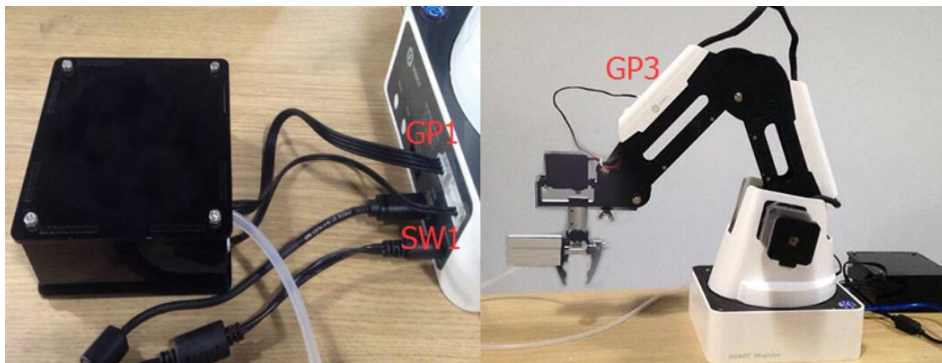

Figure 5.66 Effect of the gripper kit installation
- Step 3** Connect the gripper kit and an air pump to the Dobot Magician in the same way as the suction cup kit is installed. For details, see *5.7.1 Installing a Suction Cup Kit*. Figure 5.66 shows the effect of the gripper kit installation.